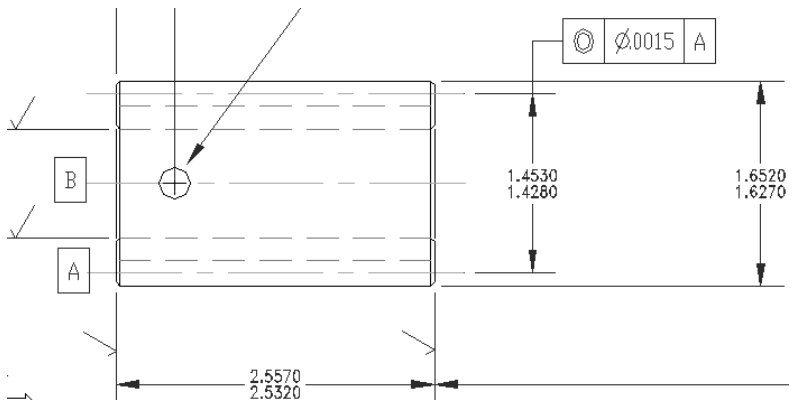

Figure 15-31: Limits tolerances.
- ♦ **Limits** tolerances include the upper and lower tolerances in the measurement, as shown in Figure 15-31. Use the Upper Value and Lower Value text boxes to type in the upper and lower tolerance amounts.